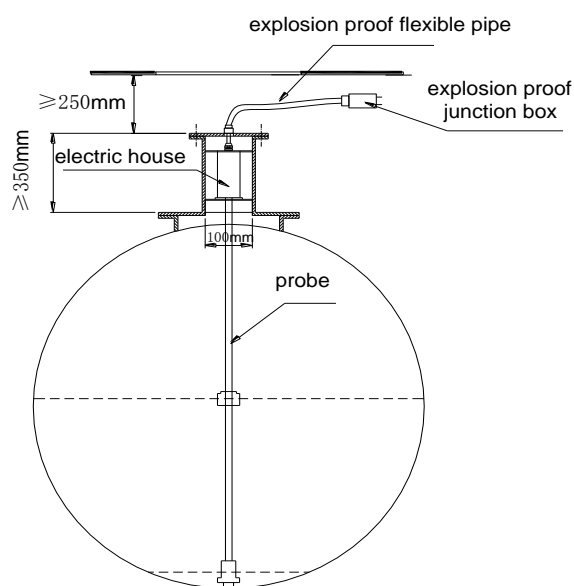

Fig. 6
- Put probe into oil tank carefully by two hands, then hold fixed plate and adjust probe to be vertical, installation position please see Fig.6.